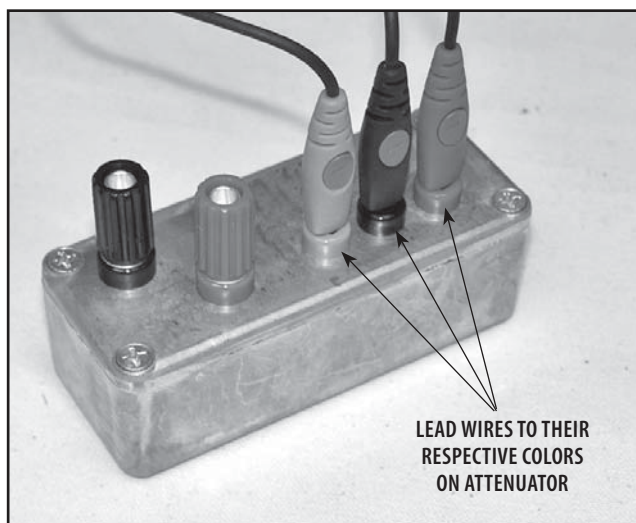

FIGURE 5.32
3. Connect the Channel 1 sEMG lead wires into the Attenuator. Make certain each sEMG Lead is connected to its respective color on the Attenuator. See **Figure 5.32**.